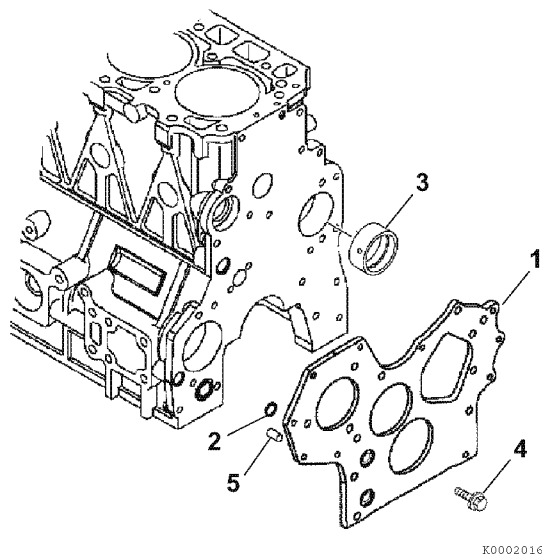

Figure 6-51
6. Remove the O-ring (**Figure 6-51, (2)**) and dowels (**Figure 6-51, (5)**).